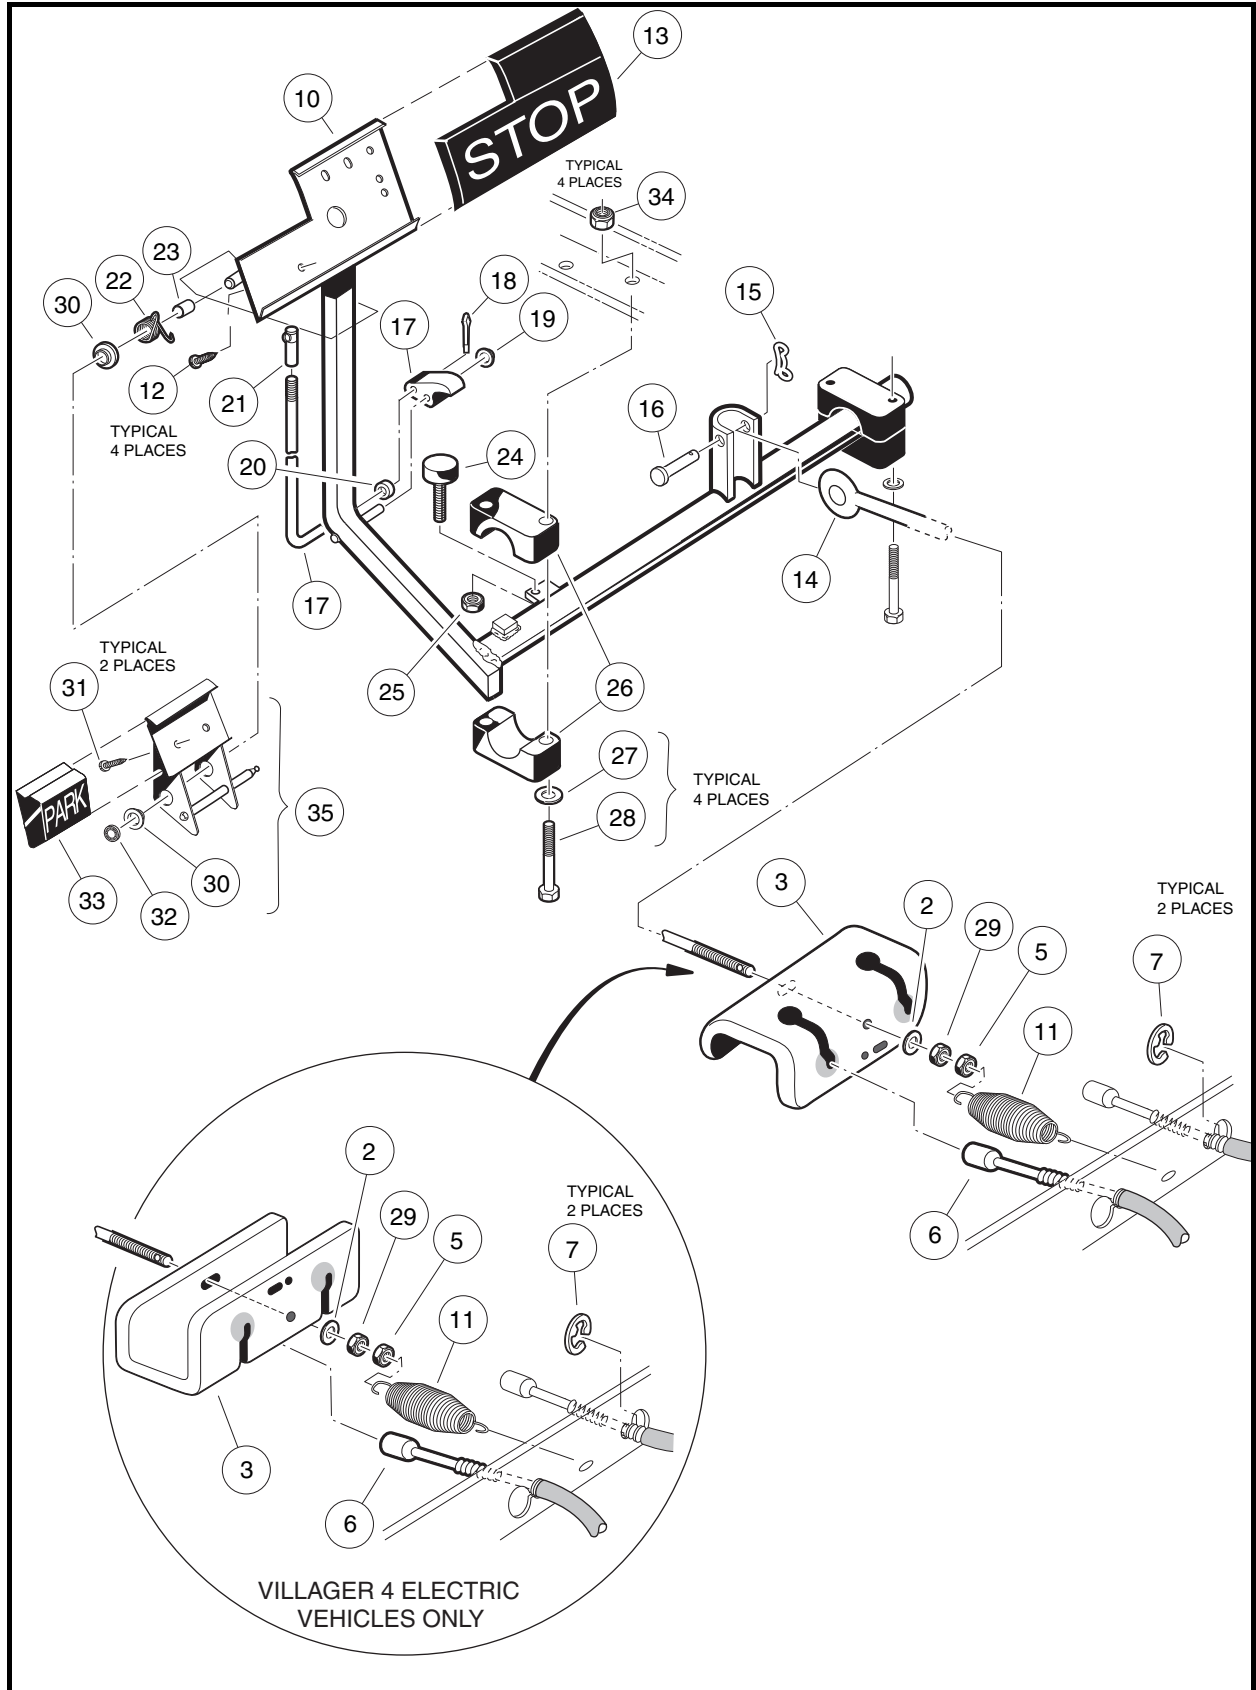
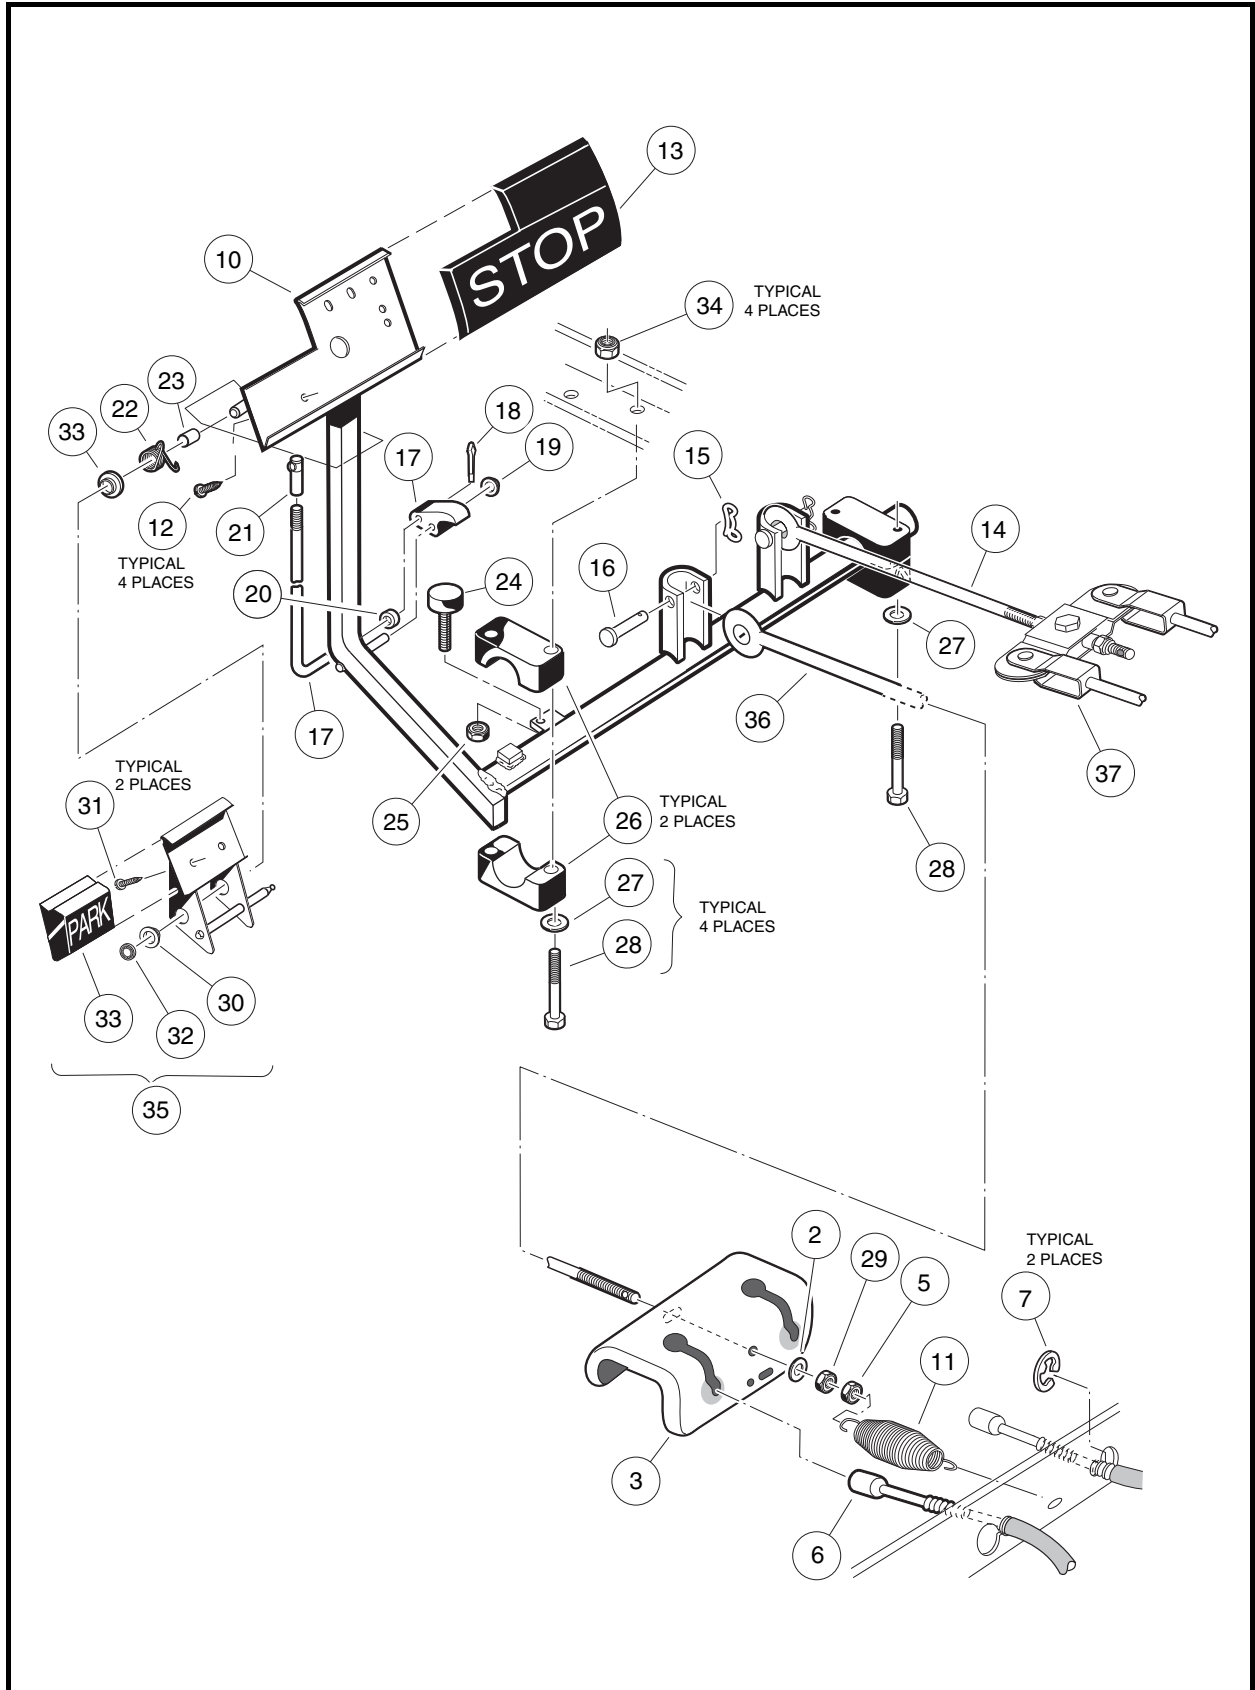
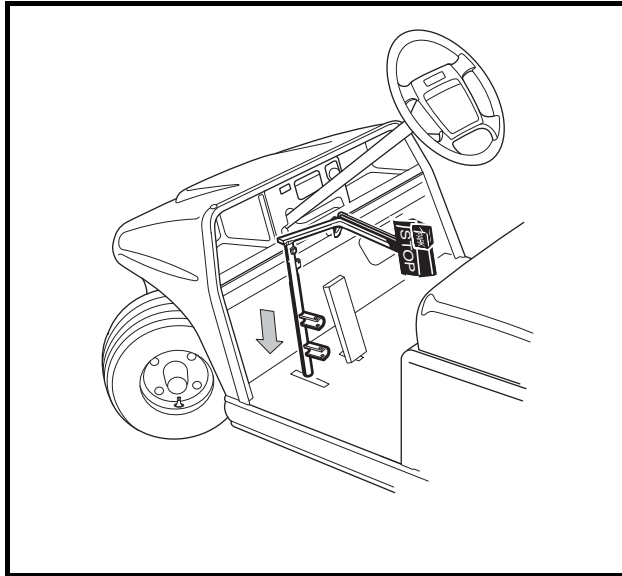

Figure 5-1 Brake and Park Brake Pedal Assembly and Mounting – Two-Wheel Brake Vehicles
Figure 5-2 Brake and Park Brake Pedal Assembly and Mounting – Four-Wheel Brake Vehicles
Figure 5-3 Brake Pedal Weldment Through Floor
- 3.1. Disconnect the equalizer rod(s) (14 and 36) from the pedal shaft by removing the clevis pin(s) (16) and bow-tie pin(s) (15) **(Figure 5-1, Page 5-2 or Figure 5-2, Page 5-3).**
- 3.2. Remove the nuts (34), flat washers (27), bolts (28), and mounting blocks (26). If the mounting blocks (26) show signs of excessive wear or are damaged, they must be replaced with new ones before installing pedal assembly **(Figure 5-1, Page 5-2 or Figure 5-2, Page 5-3).**
- 3.3. Remove the nut (25) and brake stop bumper (24) (**Figure 5-1, Page 5-2 or Figure 5-2, Page 5-3**).
- 3.4. Lift the pedal assembly (10) through the floorboard (**Figure 5-3, Page 5-4**).
1. From the top side of the floorboard, insert the brake pedal assembly (10) (**Figure 5-1, Page 5-2 or Figure 5-2, Page 5-3**) through the opening in the floor as shown (**Figure 5-3, Page 5-4**) and install the brake pedal stop bumper (24) (**Figure 5-1, Page 5-2 or Figure 5-2, Page 5-3**) on the brake pedal assembly, but do not tighten the jam nut (25) at this time.
2. Secure the equalizer rod(s) (14 and 36) to the brake pedal assembly (10) with clevis pin(s) (16) and bowtie pin(s) (15) as shown (**Figure 5-1, Page 5-2 or Figure 5-2, Page 5-3**). See following **NOTE**.
3. Position and attach brake pedal assembly, mounting blocks (26), and washers (27) to vehicle frame as shown. Tighten the bolts and nuts to 95 in-lb (10.7 N·m) (**Figure 5-1, Page 5-2 or Figure 5-2, Page 5-3**).
- 3.1. To remove the park brake rod and pawl assembly (17 through 20), remove the push nut (19) and disconnect the ball joint sleeve (21) from the park brake pedal (35) (**Figure 5-1, Page 5-2 and Figure 5-2, Page 5-3**). **See following NOTE.**